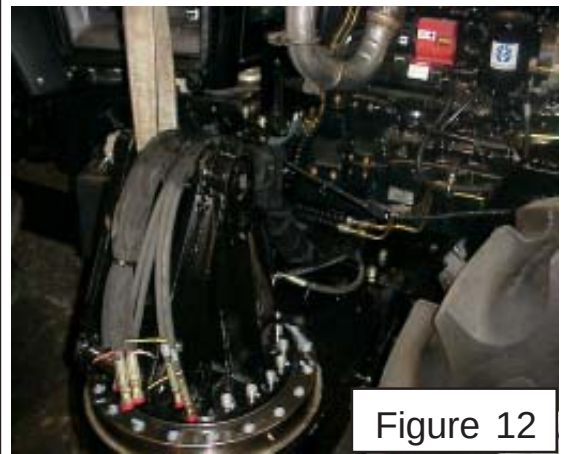

Figure 12
11. Routing Cylinder Hoses from Boom to Valve The Hose from the boom to the valve will be split, the four hoses to the door cylinder and swivel cylinder will run together through a section of sleeving material to the RH side of the tractor (See Figure 12). On the Right hand side of the tractor the four hoses will connect to the diverter valve in the coded locations (See Figure 11). Tie the hoses to the frame under the tractor (See Figure 13). The two hoses from the diverter valve will continue along the LH side of tractor with sleeving material over them (See Figure 13) to the front of the tractor. They will have hose support brackets on them that bolt to the side of the tractor (See Figure 13) where they will be connected to the valve at the Door / Swivel Ports in the correct order (See Figure 16 & 17).